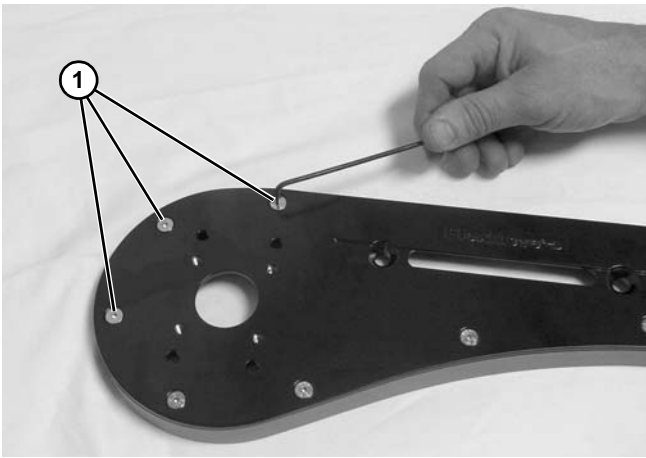

Figure 56
5. Remove three socket head screws (Figure 56, item 1).